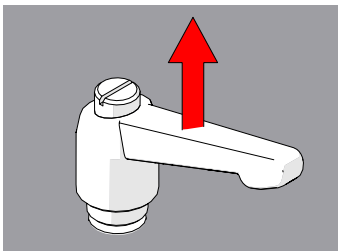

Fig. 50 - Pull ratchet handle
1. Pull the ratchet lever away from the base to which it is connected (Fig. 50).